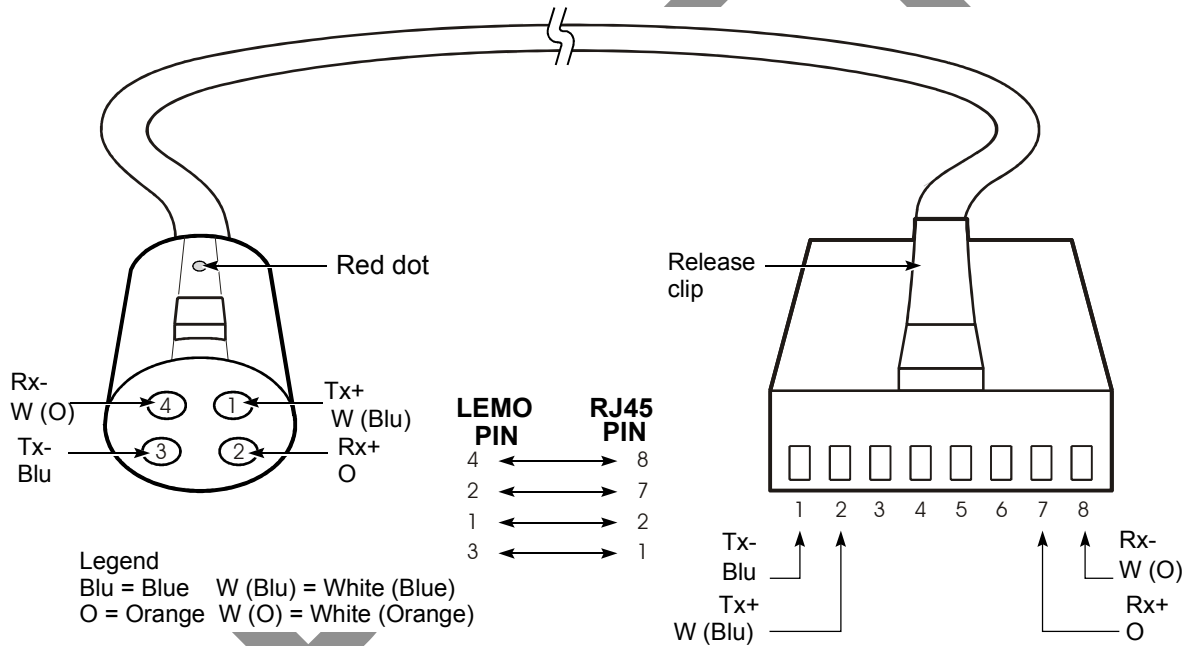

Figure 34 – LEMO and RJ45 connector pin and signal assignment
2. At an indoor location, attach a LEMO connector to the X-Pol RBS Tx/X-Pol RBS Rx end of the cable. *Figure 34* shows the pin and signal assignment and the wire color coding. See section 9.11 for instructions on installing a LEMO connector.
4. Attach an RJ45 connector to the RJ45 lightning arrester end of the cable. *Figure 34* shows the pin and signal assignment and the wire color coding. See section 9.10 for instructions on installing an RJ45 connector.